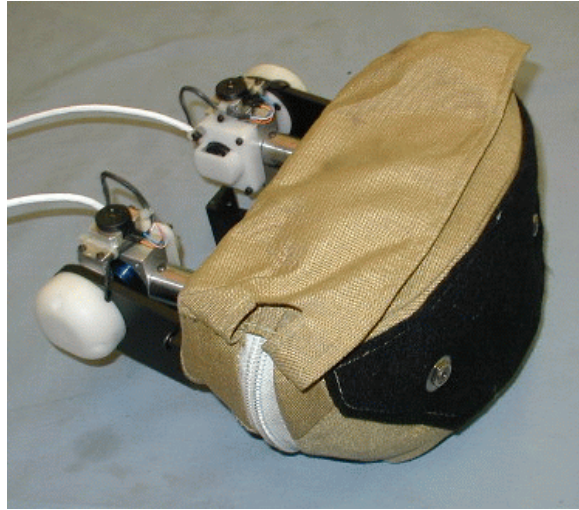

Figure 10.20- Completed Lower Abdomen assembly
25. Repeat Steps 22 and 23 for the right hand DGSP. The completed lower abdomen assembly is shown in **Figure 10.20**.